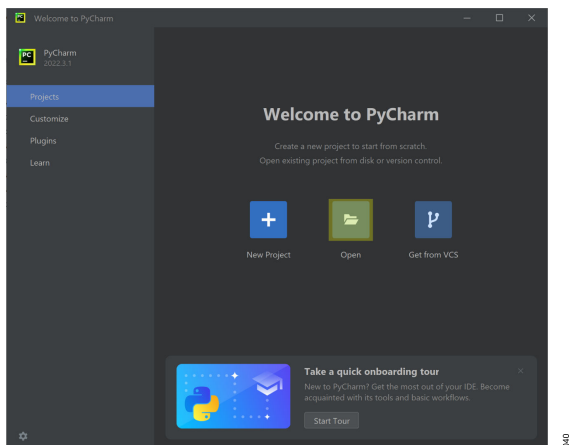

Figure 41. Launch PyCharm and Open the Python Scripts Project
- Launch PyCharm and open the **ADMX6001_Pythonscripts** project, as shown in Figure 41.